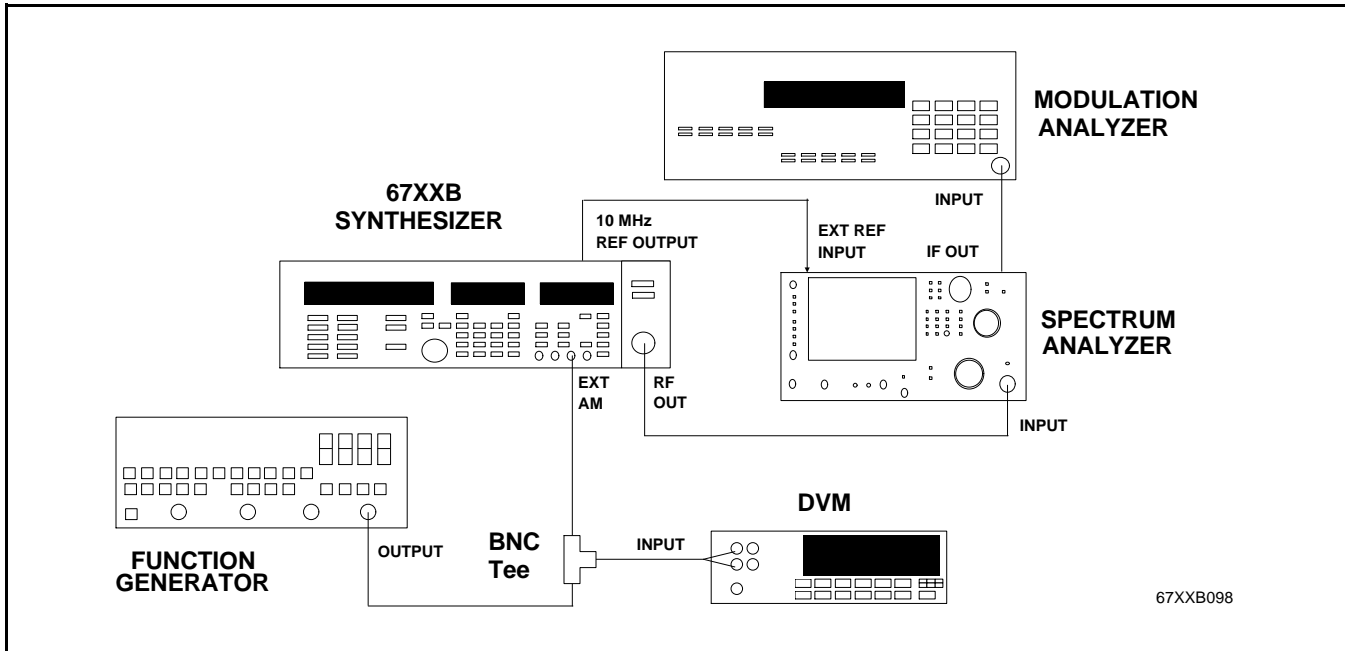

Figure 3-12. Test Equipment Setup for AM Sensitivity Calibration (0.01 to 20 GHz)
1. Connect the equipment, shown in Figure 3-12, as follows: